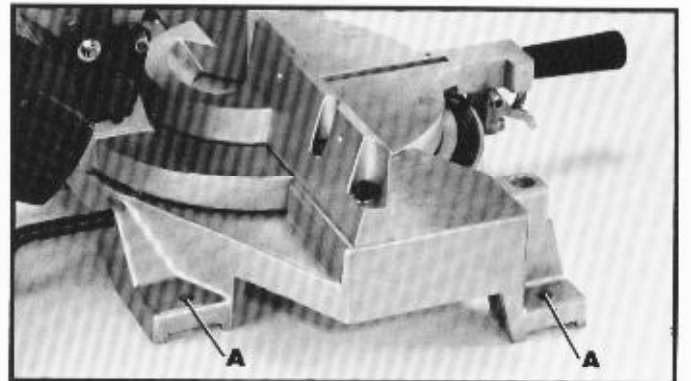

Fig. 12
IF DURING OPERATION THERE IS ANY TENDENCY FOR THE MITER BOX TO TIP OVER, SLIDE OR WALK ON THE SUPPORTING SURFACE, THE MITER BOX MUST BE SECURED TO THE SUPPORTING SURFACE USING THE FOUR HOLES, TWO OF WHICH ARE SHOWN AT (A) FIG. 12.